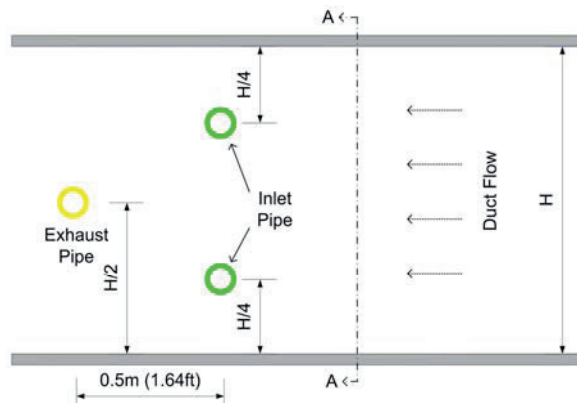

Figure 3 – Side view of the inlet and exhaust pipe positions for a large duct.
Large ducts are defined as those with widths of 1 to 2 m (3.28 To 6.56 ft). For these ventilation ducts, it is recommended that the inlet pipe of the smoke detector be in two branches. The figure below (Figure 3) shows a side view of a duct section with the relative insertion points for the inlet and exhaust pipes. The two inlet branches are located at a quarter of the height (H) of the duct with the exhaust pipe inserted mid-height approximately 0.5 m (1.64 ft) downstream of the inlet pipes.